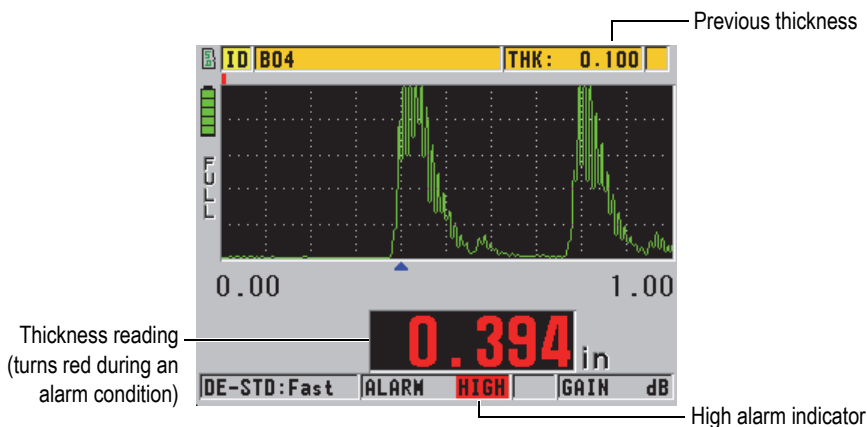

Figure 7-4 Example of a HIGH alarm indicator (Waveform option activated)
- The **HIGH** or **LOW** alarm indicator flashes with a red background at the bottom right corner of the measurement screen (see Figure 7-4 on page 134).